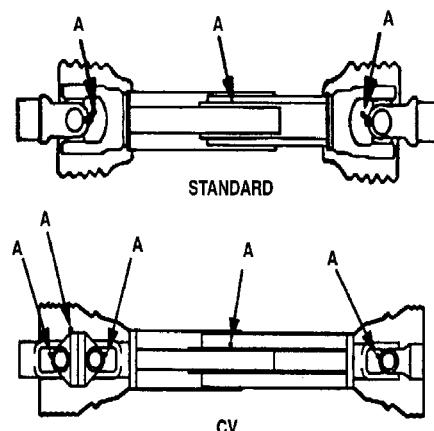

Figure 22. Driveline
1. Lubricate PTO driveline, position A, Figure 22 and Figure 24.